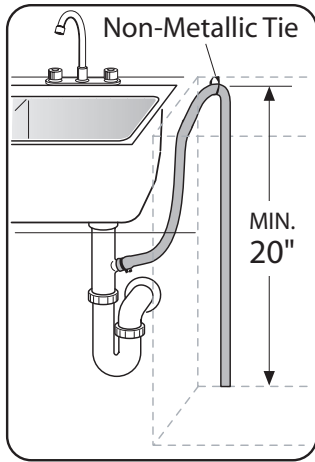

Figure 25
- 1 Directly to the undersink dishwasher drain connection, as shown in **Figure 25**.